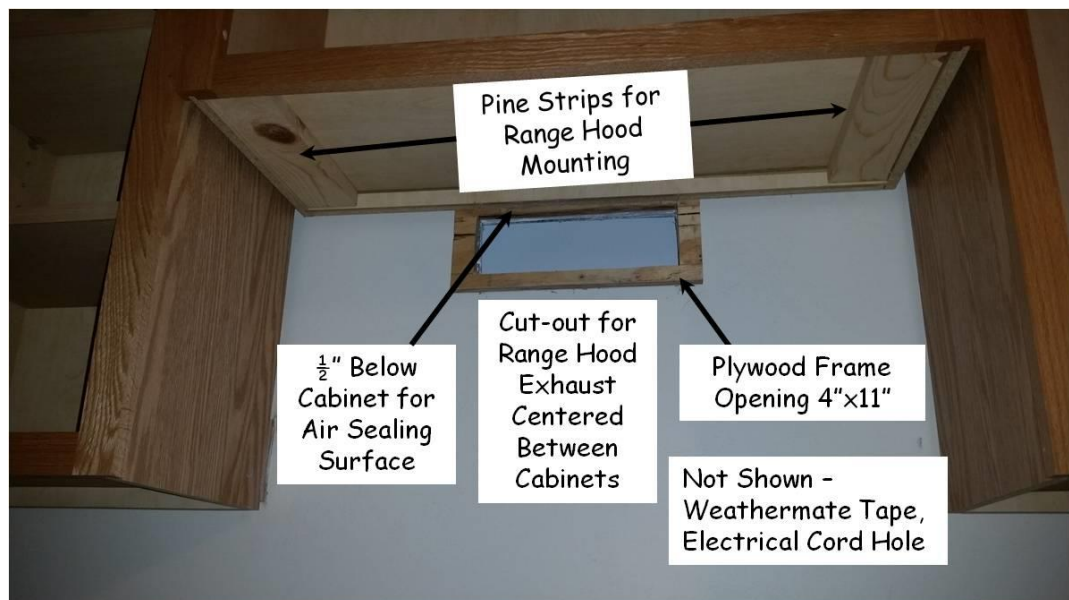

Figure 17-3. Range Hood Mounting Frame.
7. Cut out the sheetrock on the lines from above and remove. Be sure the top edge of the cutout is at least ½" below the bottom of the cabinet to provide for an air sealing surface. See Figure 17-3.